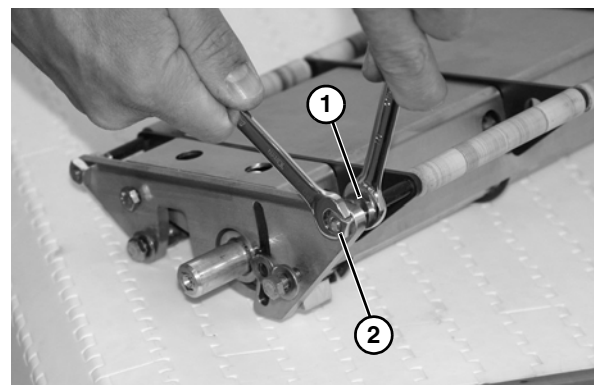

Figure 30
2. While holding onto inner nut (**Figure 30, item 1**), remove outer nut (**Figure 30, item 2**).